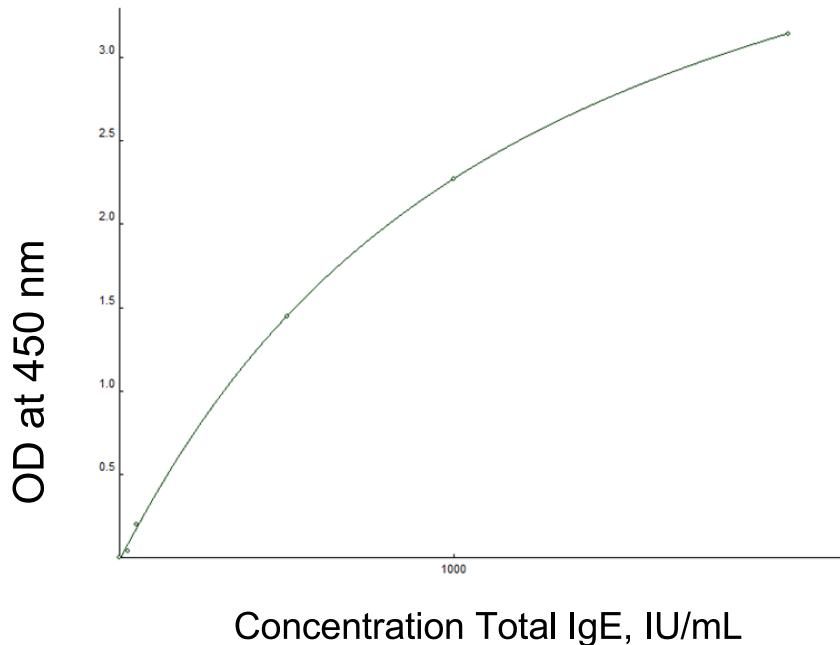
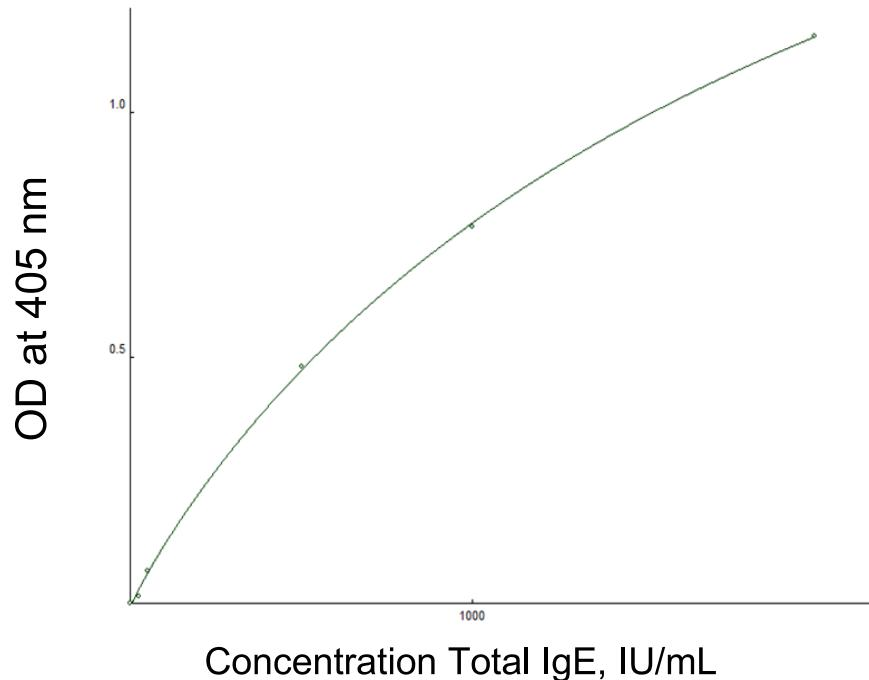

Fig. 3A. Example of typical standard curve for Option 2 (at 450 nm).
Fig. 3B. Example of typical standard curve for Option 2 (at 405 nm).
- For **Option 2** use ODs of CAL 0, CAL 1, CAL 2, CAL 4, CAL 5, CAL 6 **at 450 nm** to draw calibration plot (see typical standard curve, fig. 3A) and ODs of CAL 0, CAL 1, CAL 2, CAL 4, CAL 5, CAL 6 **at 405 nm** to draw calibration plot (see typical standard curve, fig. 3B).